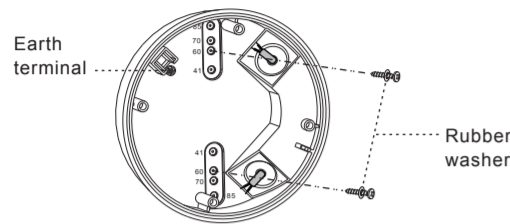

FIG.15
4.4.3.3 Choose proper knockouts to fix the enclosure on the surface of ceiling board with 2pcs wood screws attached with rubber washer (See FIG.15).